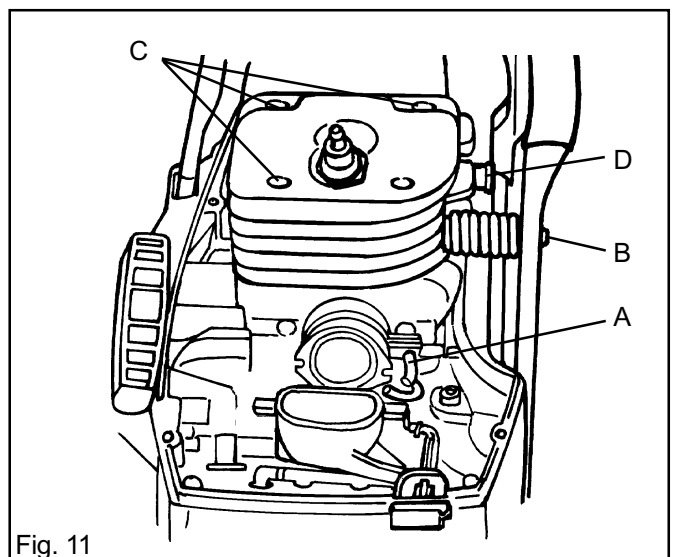

Fig. 11
7. Fit the four cylinder bolts (C) and tighten them in rotation. Finally, tighten them to 10 Nm. See fig. 11.
9. Attach the anti-vibration springs (B) to the cylinder. See fig. 11. Tighten the bolts to 10 Nm.
10. Push home the impulse pipe (A) in the hole on the inlet manifold. See fig. 11.